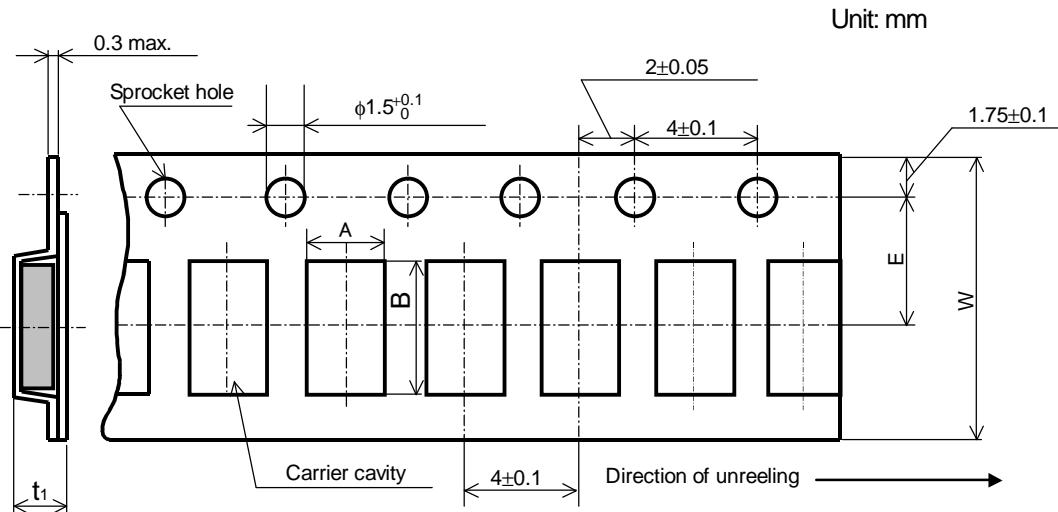

Figure-9
9.2.4 Embossed taping dimensions shall be in accordance with Figure-9 and Table-8.